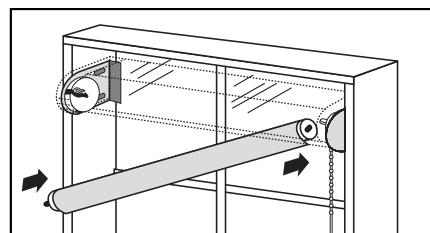

Fig 7
- a. Insert the Clutch Plug into the Clutch Unit (Fig 7).